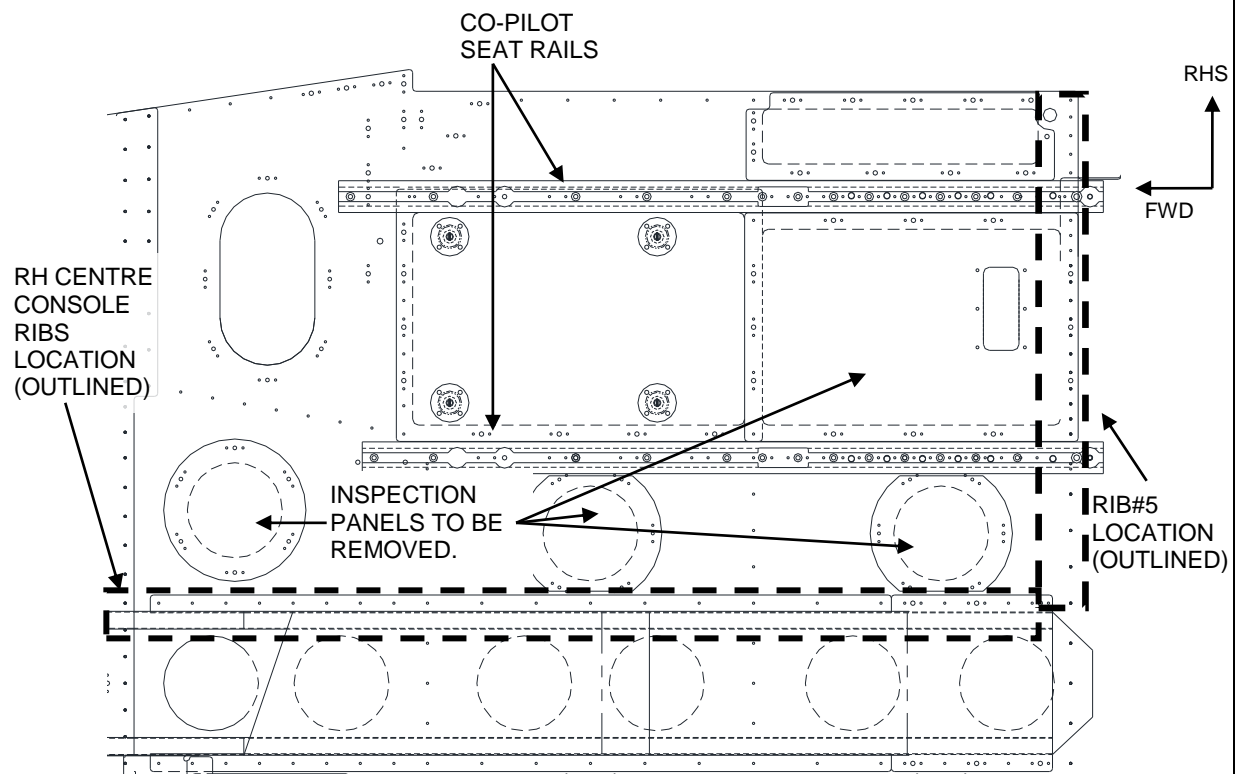

Figure 19: Inspection panels to be removed
1. Remove floor coverings and floor inspection panels to gain access to Floor Rib#5 and the RH Centre Console Ribs. See Figure 19.